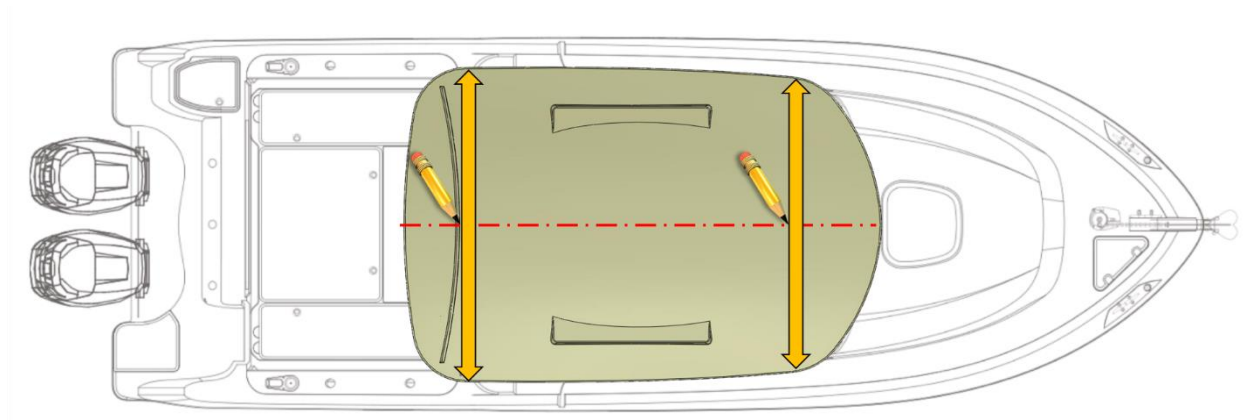

Figure 1: Marking Centerline of Hardtop
- Repeat process for the Aft. Using pencil marks as a guide, run tape or string down the center of the hardtop. (See Figure 1.)